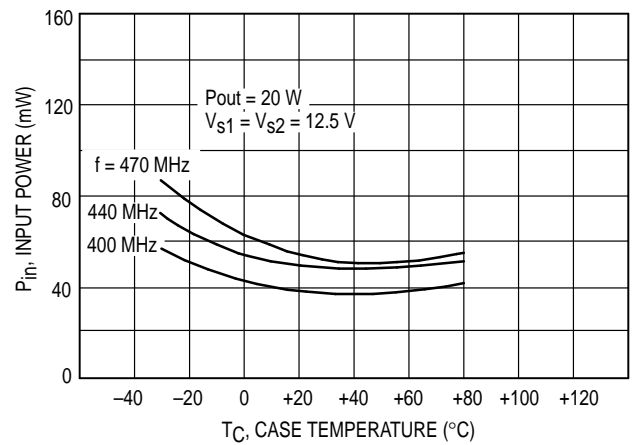

Figure 5. Input Power versus Case Temperature
1. See Figure 5, Input Power versus Case Temperature